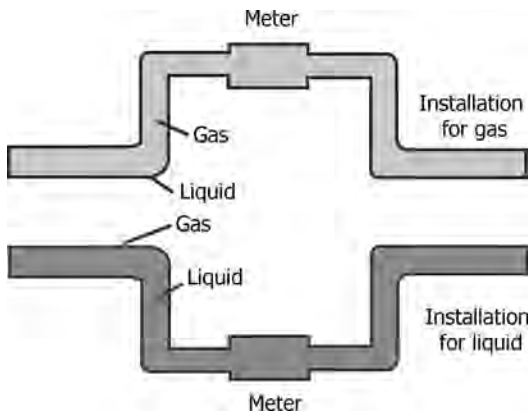

FIGURE 4.2 Meter installations for gas and liquid flows.
- This point is illustrated in Figure 4.2.